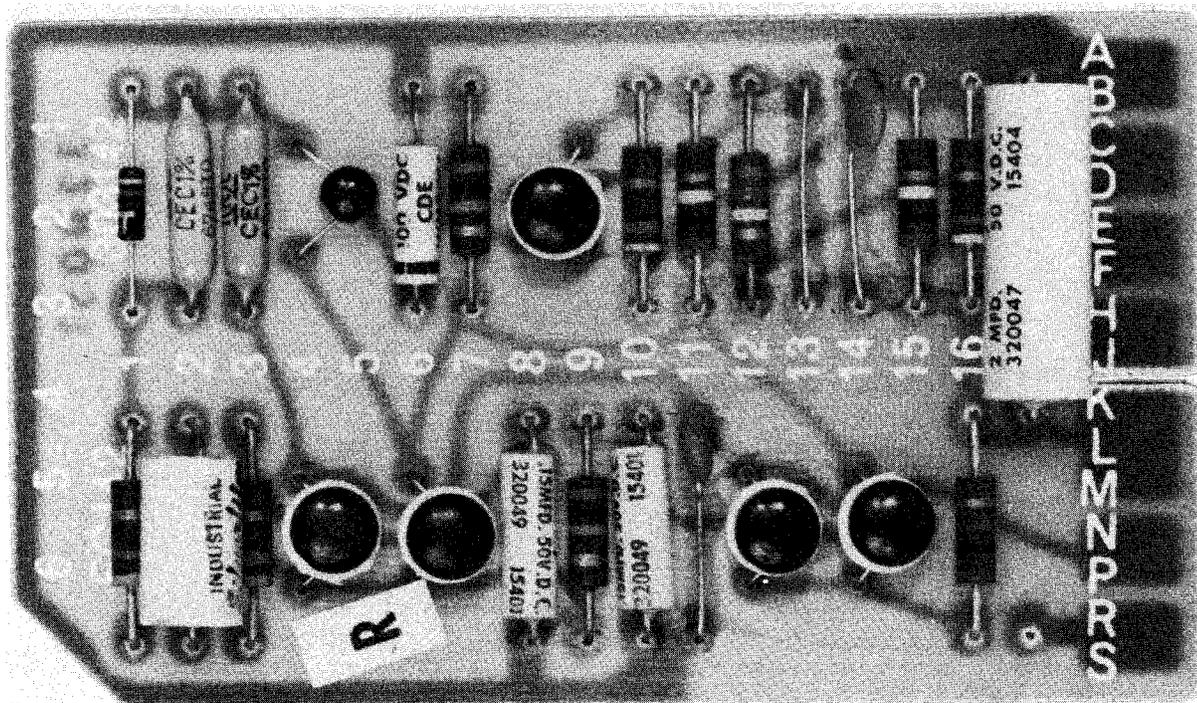

Figure 3-25. Low-Level Keyer TP303142
(10) Fuse F102 limits the output current to a total of 0.5 ampere.
c. Low-Level Keyer (LLK) TP303142. The low-level keyers (figure 3-25) are circuit card assemblies approximately 2-1/4 by 4-1/2 inches. They are designed to plug into a 15-pin connector that is wired into the electrical service assembly where it becomes an integral component for the suppression of RFI. The TP303142 LLK, used in conjunction with the TP321268 filter card assembly, is intended for use with the TP323646 signal generator (one contact) assemblies. This LLK is adaptable to various types of Model 28 type equipment when used with the applicable ESA and is designed to operate from one set of contacts. Two signal generator outputs (filter card outputs), however, may be paralleled to drive one signal line from either of two signal generators. Each keyer is designed to operate into a high resistance load. An external power source, mounted in the associated electrical assembly, is required to operate the keyers.
(1) Maximum unloaded power consumption of each keyer is less than 50 milliwatts.